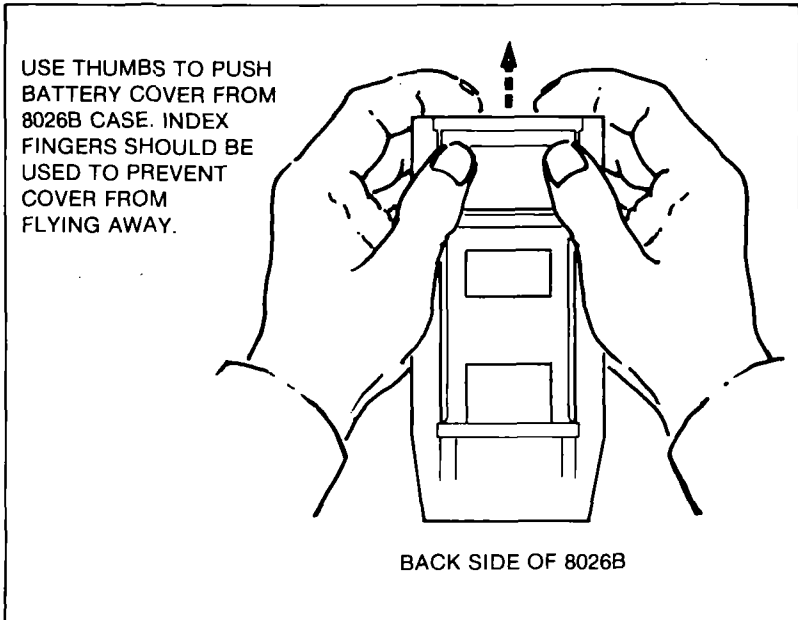

Figure 1-1. Removing the Battery Cover
3. Open the battery compartment on the bottom of the 8026B using the method shown in Figure 1-1.